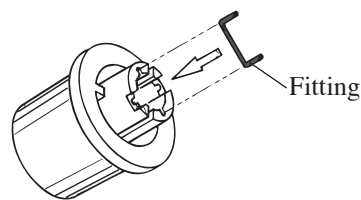

Fig. 3-6 Fitting inside the bearing
- If you plan to attach the knob again in the future, store it in a safe place where it will not get lost. Inside the bearing of the knob is a fitting that is used to engage with the axis of the variable resistor. See Fig. 3-6. Normally, this fitting does not come off the bearing when the knob is removed. However, if it does, keep the fitting inside the bearing.